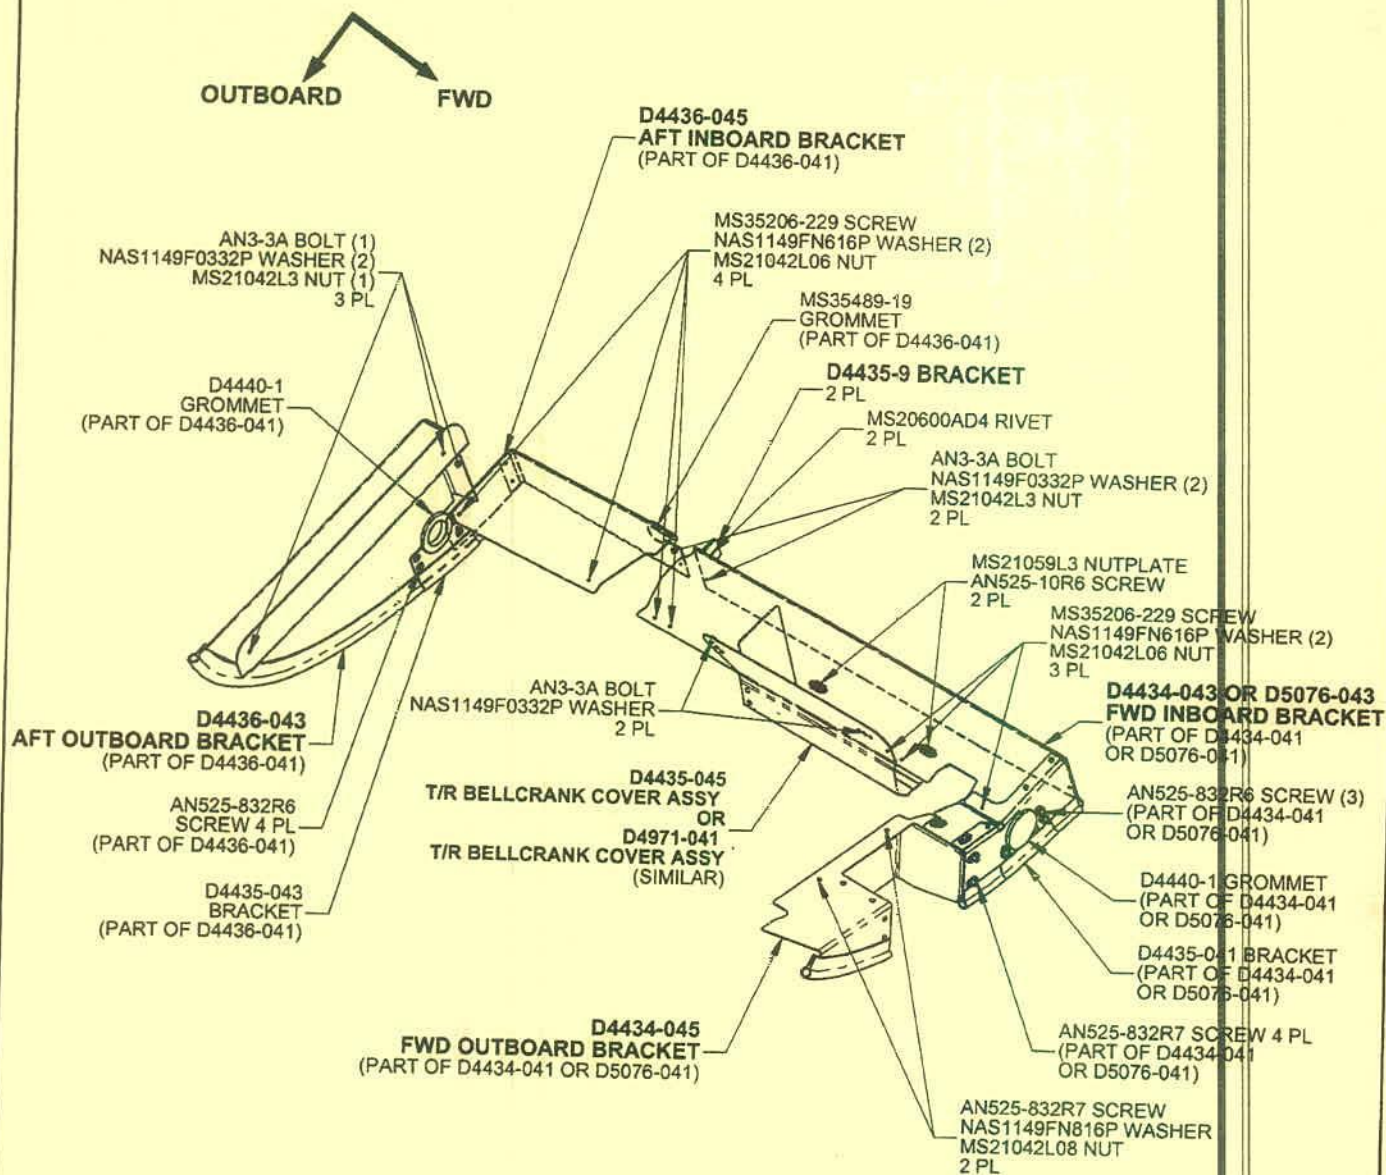

Figure 2. Floor Window Close-out Kit Installation
- Figure 2 shows the general arrangement and installation of the D350-567-141/-143/-145 Close-out Kits. The procedure that follows outlines the step-by-step procedures for installing the kit with reference photos from the initial installation.